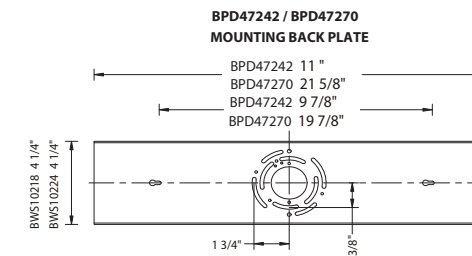

Fig. 3
3. Remove the mounting screw (C) from the mounting back plate.
4. The lamp can switch between three color temperatures (3000K-3500K-4000K), which can be adjusted to your preference with the switch in the canopy (Fig.3).
- b) Due to limited space within the canopy, shorten the cable as necessary to make the installation easier. Make sure to identify and label all the wiring properly before any trimming/shortening. (Fig. 3)
CONNECTING THE WIRES (Fig. 2/Fig. 3)
8. Connect the driver's input/output wires to junction box wires and 3CCT switch wires as shown in Fig. 2/Fig. 3, make sure that all wire connectors (A) (B) are secured. If your outlet box has a green or bare copper ground wire, connect the fixture's ground wire to it. Otherwise, connect the fixture's ground wire directly to the back plate using the screw provided. After wires are connected, tuck them carefully inside the junction box.